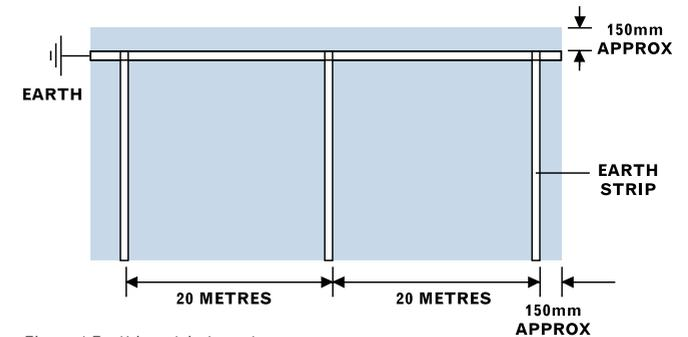

Figure 1 Earthing strip layout
- > The earth strip is laid 150mm from one side of the room, in the same direction as the vinyl sheets are to be laid. This strip is connected to a known earth (Fig 1).